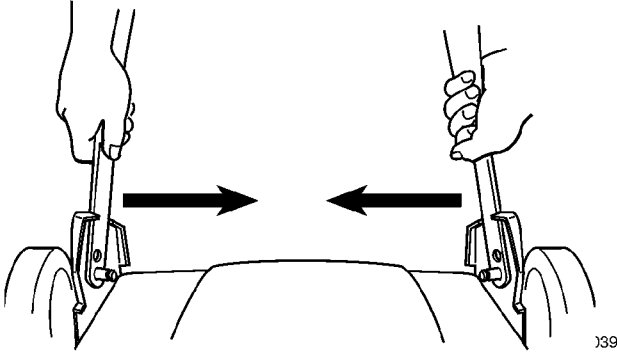

Figure 54
1. Squeeze bottom handle section together and slide past stops of handle brackets (Fig. 54).